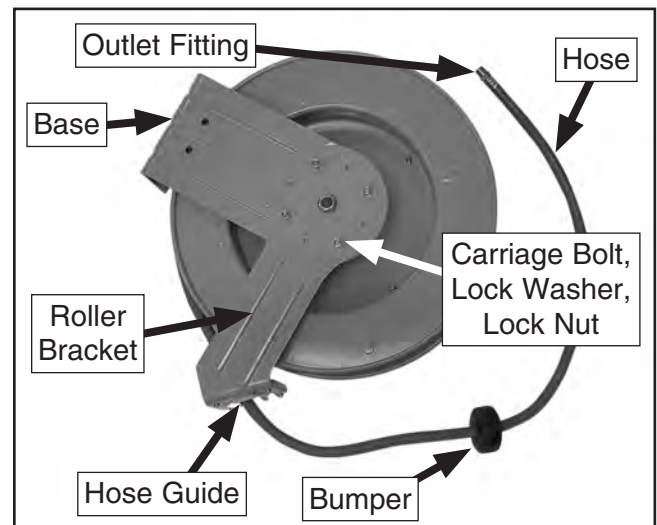

Figure 2. Roller bracket and main components.
2. Check that the hose guide roller bracket position (see **Figure 2**) is suitable for the chosen mounting position.
2. Remove the four carriage bolts, lock washers, and lock nuts, (**Figure 2**) rotate the bracket to the desired position, then re-install the fasteners.